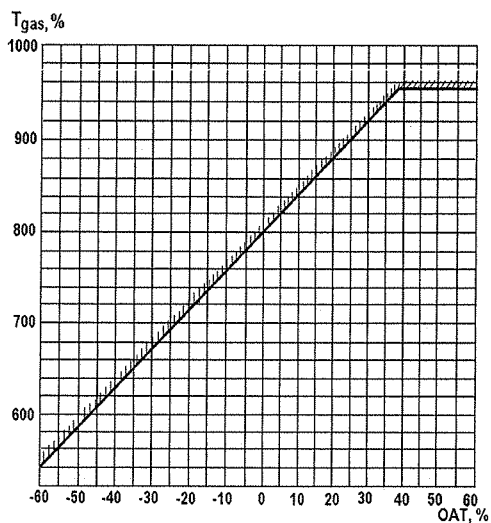

Fig. 3.4. Maximum TGT (by T-102 Thermocouples) versus Ambient Temperature (OAT) in Partial Acceleration Test
- (6) Check the engines partial acceleration performance, i.e. from the idling speed up to a gas generator speed 1 to 1.5% below the speed with the throttle control twist grip in the right position. For this purpose:
- (b) Smoothly set the engines to idle power and again set the throttle control twist grip to the right position within a period of 1 to 2 s. In so doing, measure the time elapsed since the beginning of turning the throttle control twist grip to the right up to the moment when a speed is 1 to 1.5% below that with the throttle control twist grip at the right position. The TGT should not exceed the limits indicated on the graph of Fig. 3.4.